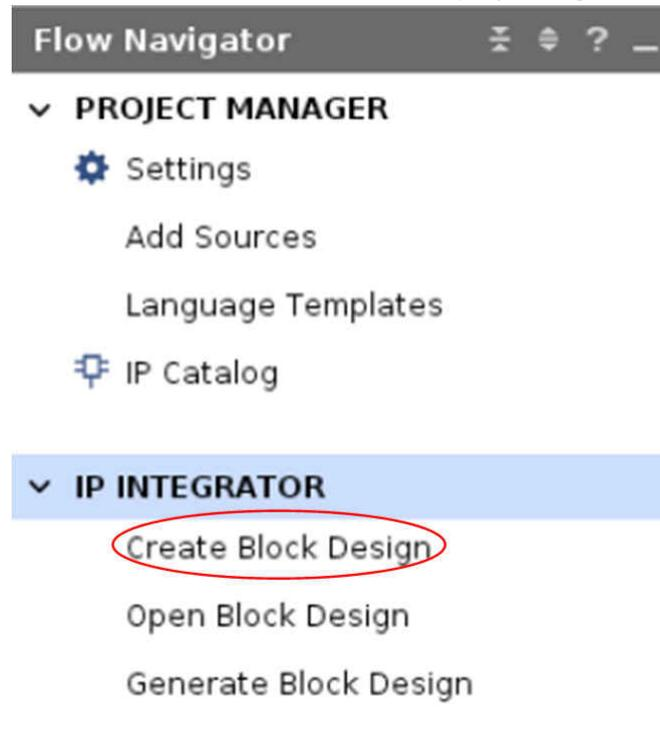

Figure 7-1. Creating Block Design
1. Open the *IP INTEGRATOR* menu and click *Create Block Design* (see Figure 7-1).